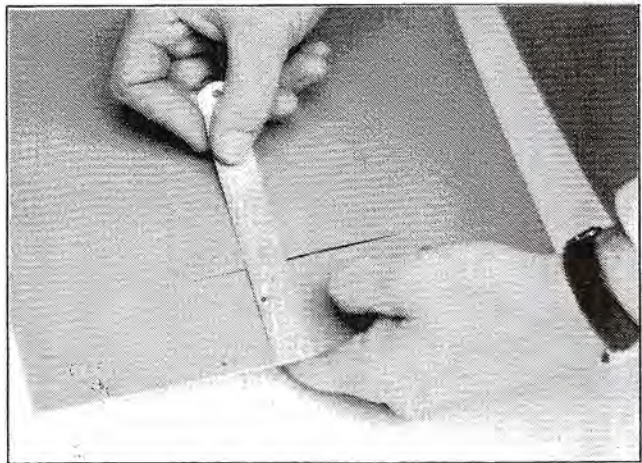

Fig. 5
1. Slide the squaring arm stop (7) fully to the right.
2. Set the margin guide stop (15), the end-of-cut stop (12) and the pointer of the start-of-cut indicator (2) to give any arbitrary reading on their respective scales, such as 2 ins or 5 cm. When setting the start-of-cut indicator move the start-of-cut scale (23), releasing and then locking it by turning the start-of-cut locking screw (3) on the side of the indicator. **Do not, at this stage, loosen the indicator locking screw (4) ABOVE indicator.**
3. Using a slip sheet, place a piece of mountboard in the cutting position, as described on page 5 with its edges firmly against the margin guide (18), the squaring arm (8) and the back squaring arm (16).
4. Bring the start-of-cut gauge into firm contact with the top edge of the mountboard as described on page 5 and make a test cut with the bevel blade as far as the end-of-cut stop (12).
5. Take the mountboard from the machine and measure the following distances **on the face** accurately with a steel rule (Fig. 5):
- from the start of the cut to the top edge; this should be precisely the same as the reading of the pointer of the start-of-cut indicator (2).
- from the end of the cut to the bottom edge; this should be precisely the same as the reading on the end-of-cut scale (11).
- from the cut to the right hand edge; this should be precisely the same as the reading on the margin guide scale (14) at the margin guide stop (15).
6. If the reading on the start-of-cut scale (23) is not precisely the same as the corresponding measurement on the mountboard, re-calibrate the scale by loosening the indicator locking screw (4) above the start-of-cut indicator.
**Do not loosen the start-of-cut locking screw (3) on the SIDE of the indicator.**